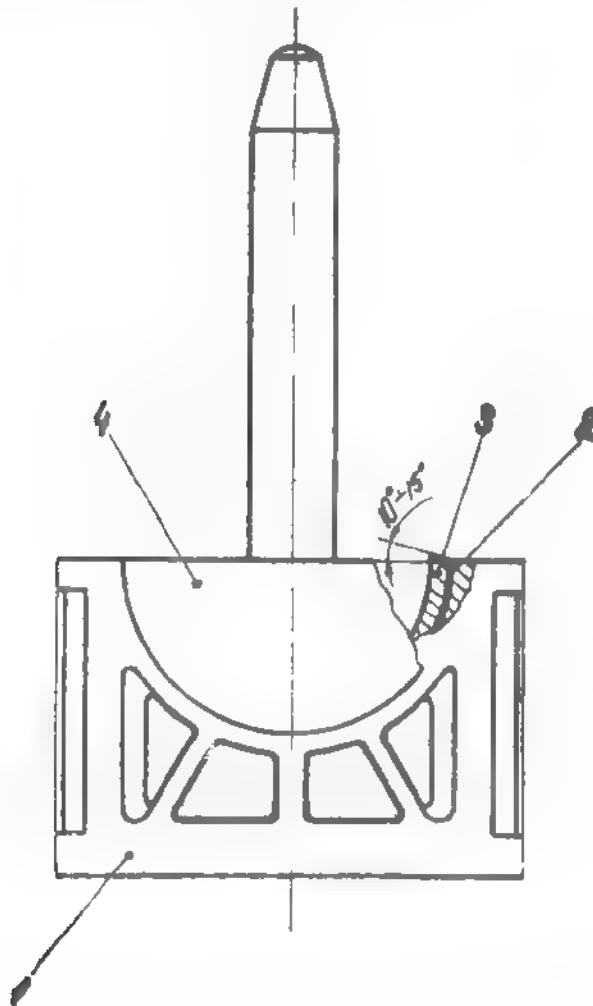

Fig. 4.66. INSERTING PACKING HALF-RINGS, BY MEANS OF S-16 DRIFT, IN THE REAR BEARING COVER.
- The ends of packing cord, left over the block surface, should be cut using a very well sharpened knife, as in the Fig. 4.66.
- Insert in rear stuffing box of cylinder block a strip of sealing material (Klingerite) and packing half-ring (graphite asbestos cord), by means of S 16 pressing drift (see Fig. 4.66).
- Trim ends of packing half-ring at 10° - 15° , as shown in Fig. 4.66.
- Insert in rear bearing cover a strip of sealing material (Klingerite) and packing half-ring (graphite asbestos cord), using the S 16 pressing drift. (see Fig. 4.66). Trim ends of packing half-ring at 10° - 15° .